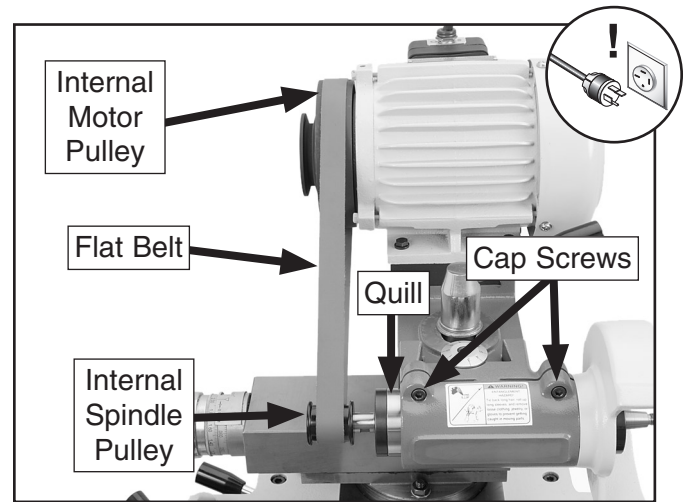

Figure 17. Aligning the internal spindle and motor pulleys.
- Loosen the two cap screws shown in **Figure 17** that secure the quill, then push the quill into the housing to align the internal spindle pulley with the large, flat internal motor pulley.
- Place the flat belt onto the pulleys, as shown in **Figure 17**.